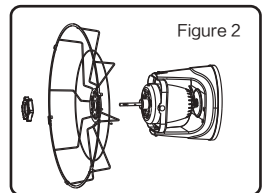

Figure 2
2.Installation of rear grill (as shown in Figure 2)